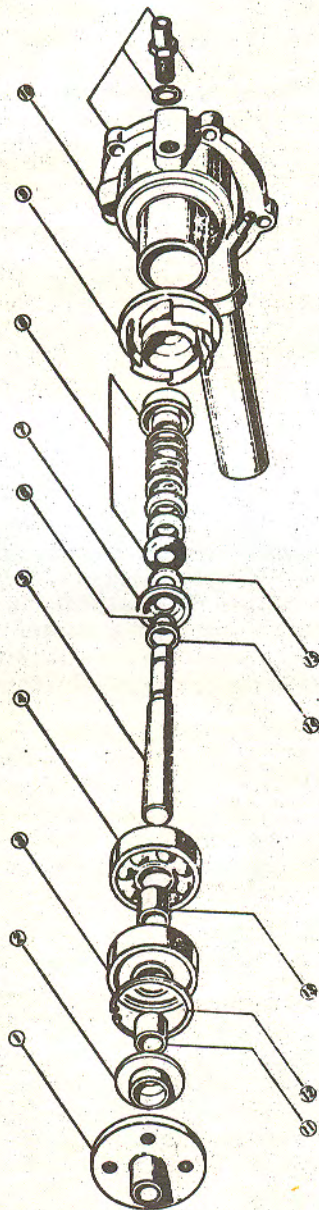

Fig. 1.41. — Exploded view of the water pump.
Inspect all parts for wear or damage and replace as necessary. When assembling the pump, refer to Fig. 1.41. First insert the stopper ring (6) into the groove of the shaft and slide the dust seal plate (7) onto the shaft. Drive the baffle plate (15) onto the shaft taper. Now insert the shaft (5) into the pump body and press in